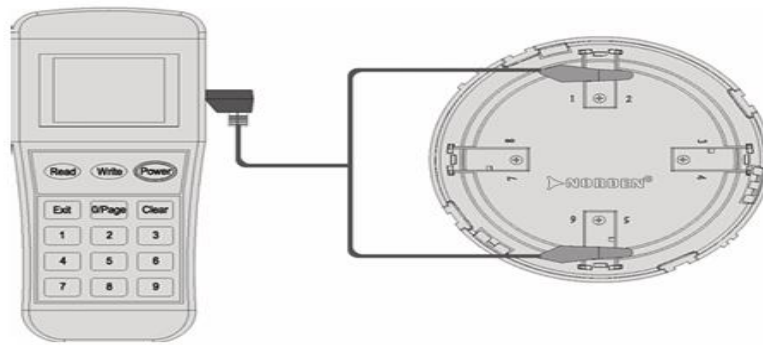

Fig.6
- Connect the programming cable to 1 and 6 terminals (Figure 6). Press "Power" to switch on the unit.